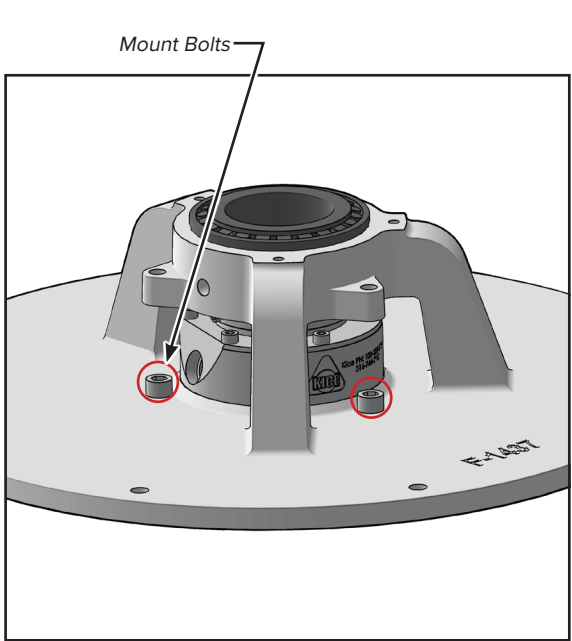

FIGURE 20
- 9. Remove the three dynamic seal mount bolts from the airlock endplate (figure 20).
- 14. Install mount bolts from endplate to dynamic seal (figure 20). Cross tighten the three bolts.